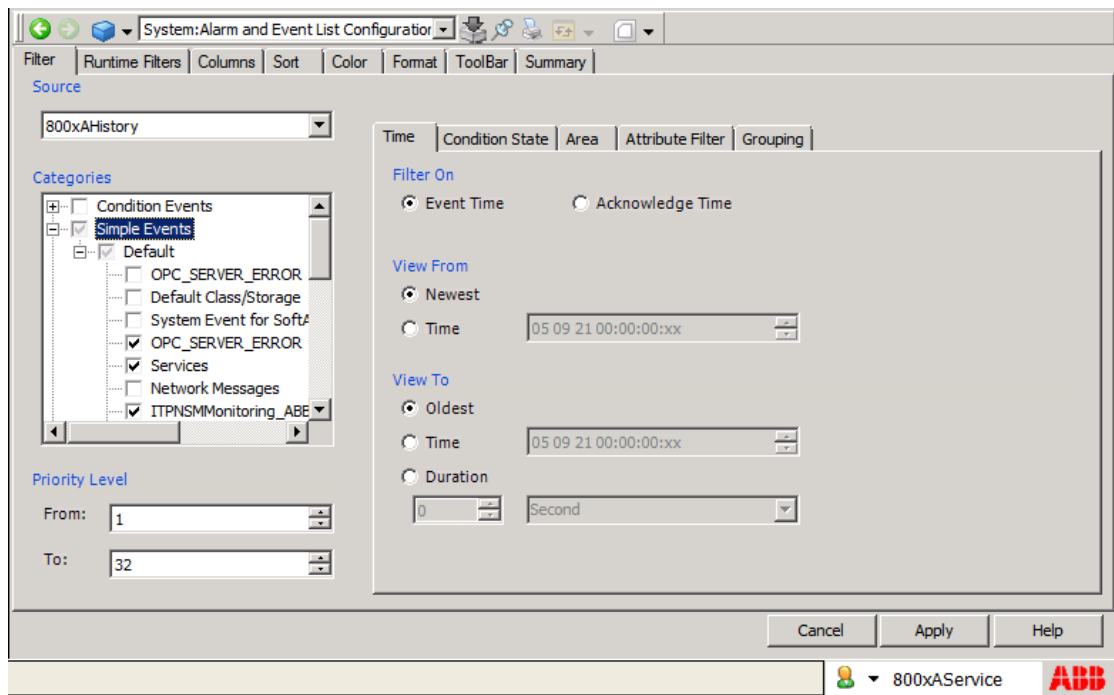

Figure 240. Retrieval based on category
1. Each event type has series of categories, which belong to the type. Under Categories section, expand the corresponding **Events** structure and select the categories to be considered for the retrieval as shown in Figure 240.